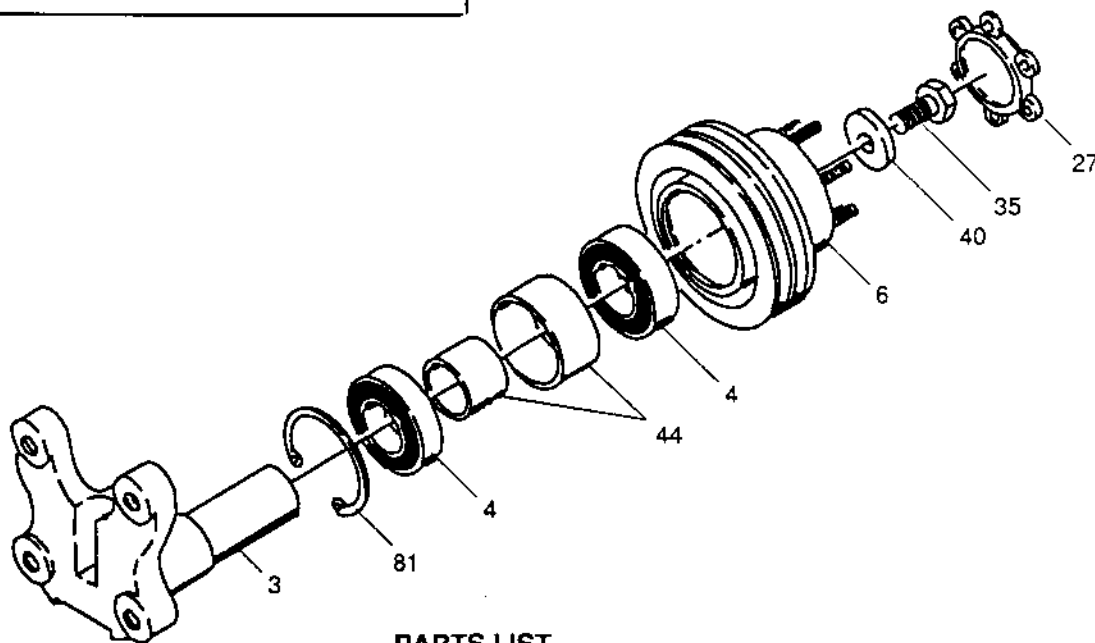

FIGURE 2
- A. Remove Fan Spacer (Item 27) (See Fig. 2).
- B. Remove Cap Screw (Item 35) and Retainer Cap (Item 40) (See Fig. 2).
- C. Slide Sheave (Item 6) off Journal Bracket (Item 3) (See Fig. 2).
- D. Remove Retaining Ring (Item 81) (See Fig. 2).
- E. Fully supporting Sheave (Item 6), press Bearings (Item 4) and Spacers (Item 44) out of sheave (See Fig. 2).